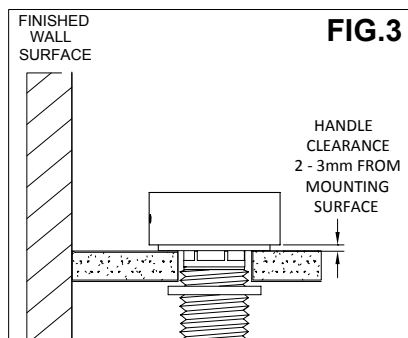

FIG.3
- Note; the Handle should have 2-3mm clearance from the mounting Surface. (See Fig.3)